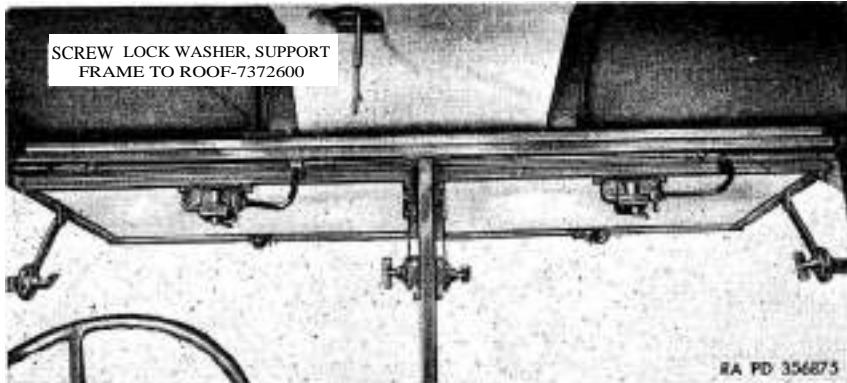

Figure 202. Roof to windshields and support frame assembly attaching screws.
- (1) Remove seven lock washer screws, which attach the roof to the windshields and support frame assembly (*fig. 202*).